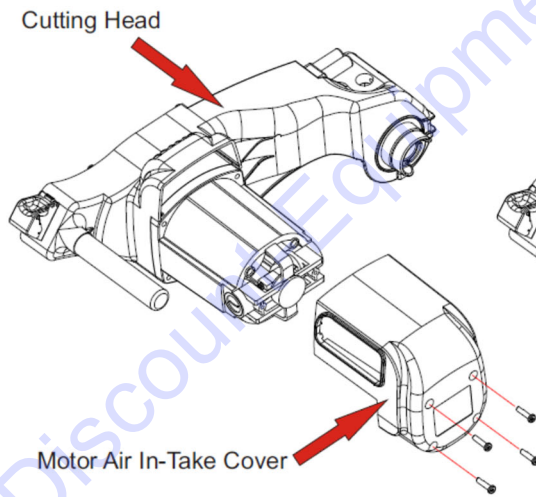

Figure 4-1: Motor Air In-Take Removal
3. Remove the four (4) Motor Air In-Take Cover mounting screws (see Figure 4-1: **Motor Air In-Take Cover Removal**).